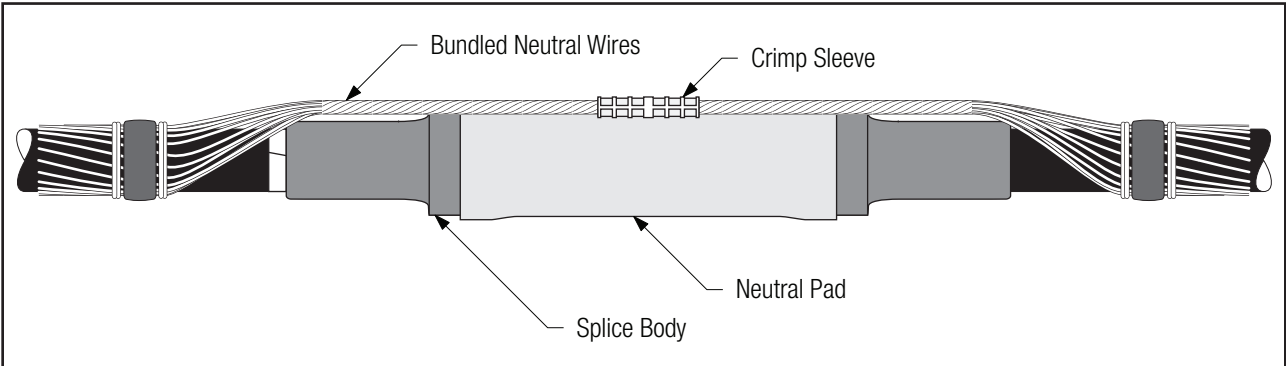

Figure 30
8.2.1 Center neutral pad on splice body. Remove temporary vinyl tape from neutral wires and connect with an inline compression connector (crimp sleeve). Route neutrals and connector over the neutral pad (Figure 30).